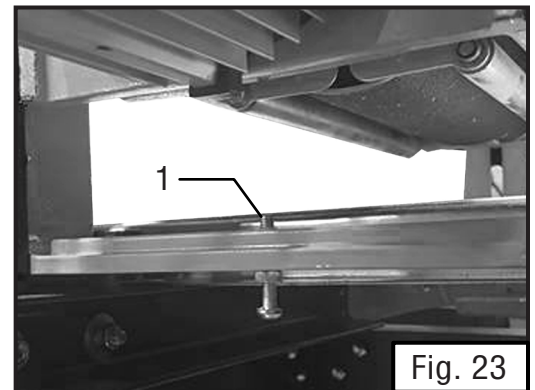

Fig. 23
### ADJUSTING THE STOP SCREW (FIG. 23)
3. Loosen the hex nut on the stop screw and adjust the height of the screw (Fig. 23 - 1) to protrude above the frame higher than 1/4 inch.